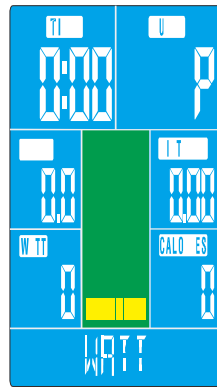
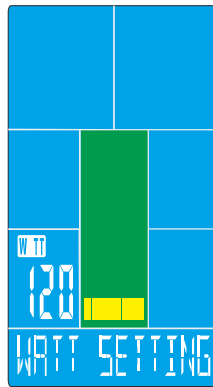
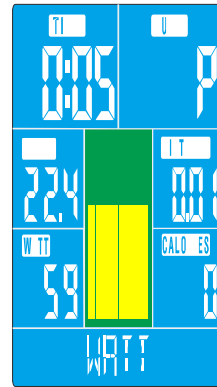

FIGURE 19
FIGURE 20
FIGURE 21
- If choose WATT function (Figure 19), press MODE confirm to next step. And set WATT (10~350±5), press UP/DOWN to set (default value 120, Figure 20) and press MODE to confirm. And go to next step to set TIME (1~99 minutes) or press START to execute function; After START, according to the WATT value and practice state input by the user, the LEVEL value is automatically adjusted (Figure 21), and the WATT value can be adjusted by pressing the UP or DOWN button.